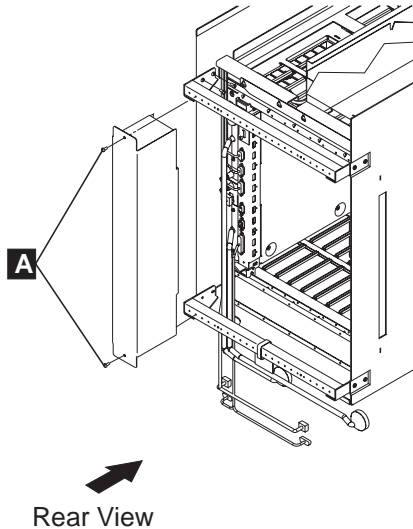

Figure 3-7. APC Cover
1. \_\_\_\_ Remove in the 2220-500 and 2220-501 the two screws **A** from the APC module shield (see Figure 3-7).
4. \_\_\_\_ Reinstall the APC cover using two screws **A** (see Figure 3-7 on page 3-10).
2. \_\_\_\_ Reinstall the APC cover using two screws **A** (see Figure 3-7 on page 3-10).